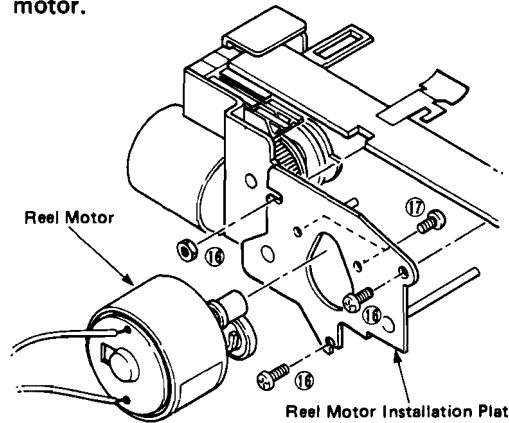

Fig. 10
- d. Remove 2 screws and nut (16) in Fig. 10 and remove the reel motor installation plate.
- e. Remove 2 screws (17) in Fig. 10 and replace the reel motor.